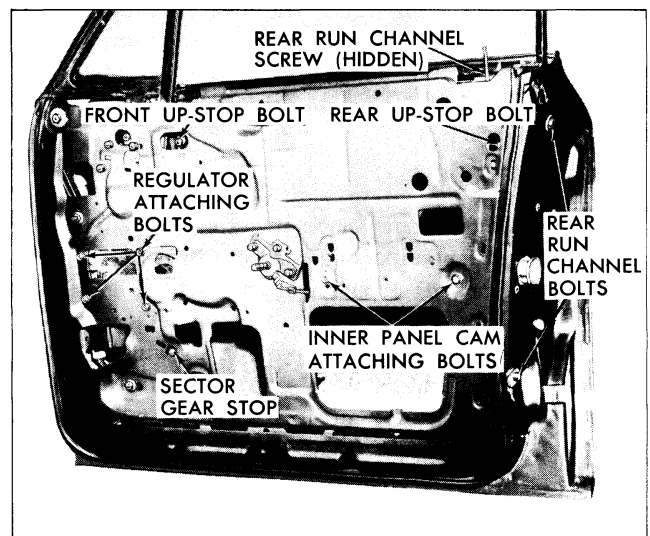

Fig. 3-33 Front Door Hardware Attachment
2. Through door inner panel access holes, remove bolt securing window front up-stop and window assembly rear up-stop and remove stops from door. These stops are attached to the front and rear extensions (legs) of the window lower sash channel and are adjustable up or down (Fig. 3-33).
4. Remove window inner panel cam (Fig. 3-33).
*NOTE: It may be necessary to remove the single screw securing the top section of window rear run channel to door inner panel. This can be done to gain more freedom of movement at rear section of window (Fig. 3-33).*
1. The door window inner panel cam is adjustable at the forward section and can be utilized to correct a rotated (cocked) front door window (Fig. 3-33).
4. To adjust upper rear of window in or out for proper contact with side roof rail weatherstrip, or to adjust rear of window in or out at belt line, loosen two rear glass run channel attaching bolts at lock pillar facing of door and the single screw at top in door inner panel. Position channel in or out as required and tighten bolts and screw (Fig. 3-33).
5. To adjust limit of up travel of window for proper contact with side roof rail weatherstrip, raise door window and through inner panel access holes, loosen window front and rear stop attaching bolts. Adjust stops up or down as required, then tighten bolts (Fig. 3-33).
6. The up travel of the window is additionally controlled by the window regulator sector gear stop (Fig. 3-33). This stop is adjustable up or down.
4. Remove regulator motor attaching bolts and remove motor from regulator (Fig. 3-33).